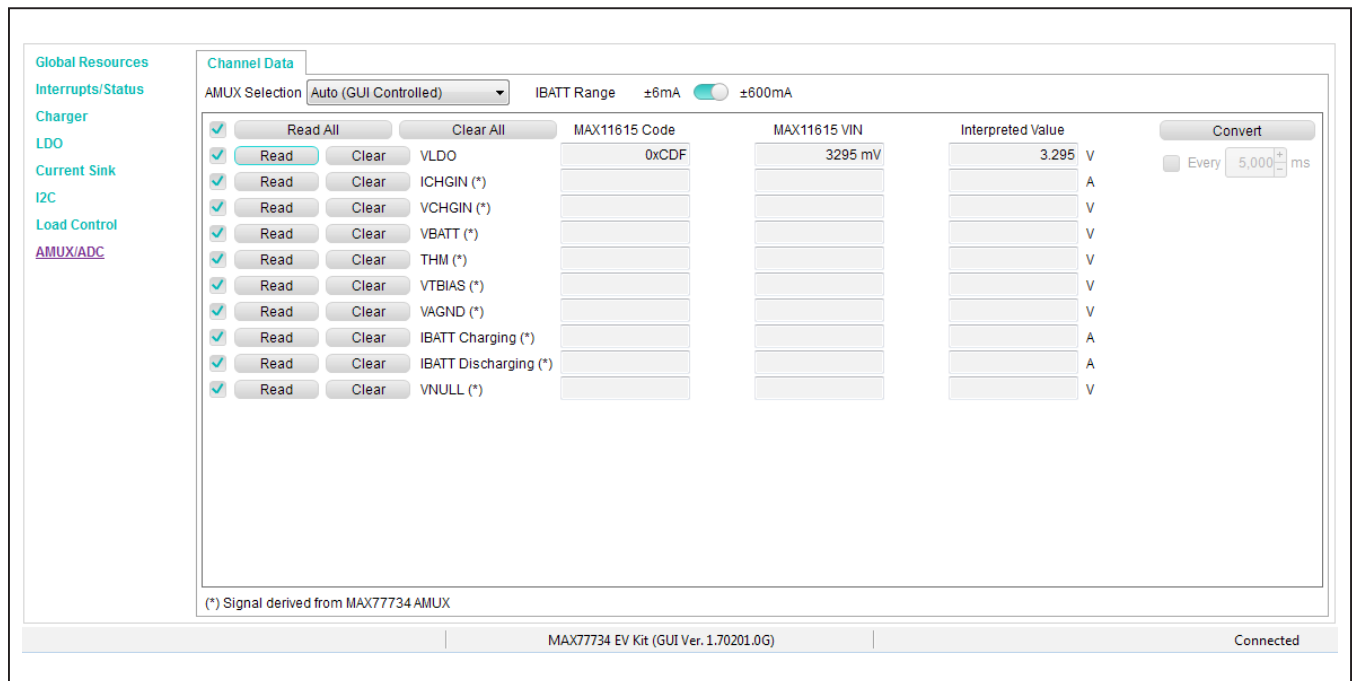

Figure 4. Quick Start: Regulator Check with the ADC
- 7) On the **AMUX/ADC** tab of the GUI, click the **Read** button for VLDO. For the MAX77734C you should see 3.3V (see Figure 4).